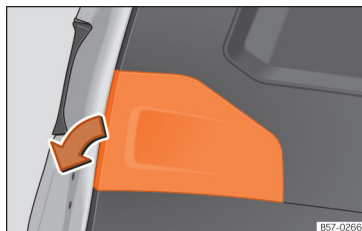

Fig. 202 Rear lid open: remove the lid.
- Remove the rear lid cover in the direction of the arrow >>> **Fig. 202**.